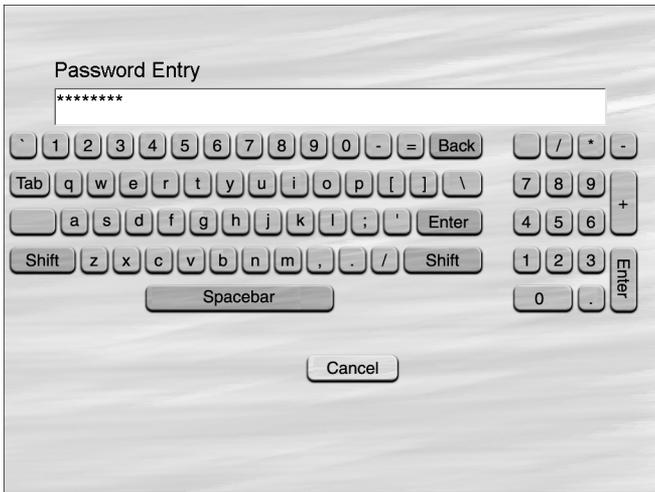

Figure 2-2 SoftCheck Tool X Manager Keyboard
- 5 To create your administrator account, enter your Login Name, First Name, Last Name, and Password. Reenter your password for confirmation. Click the ENTER button after completing each field. See Figure 2-2, "SoftCheck Tool X Manager Keyboard."